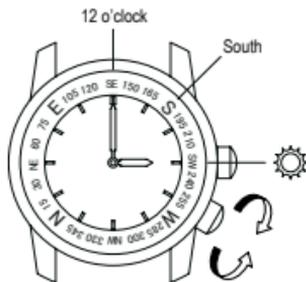

FIG. 2
- (2) In the afternoon, with twelve o'clock as the origin, "the position midway between twelve o'clock and the hour hand clockwise from twelve o'clock" will point toward south. Refer to FIG. 2.